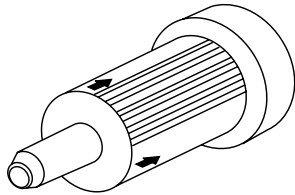

Figure 19. Fuel Filter
1. Replace the engine fuel filter (Figure 19) every year or 300 hours.